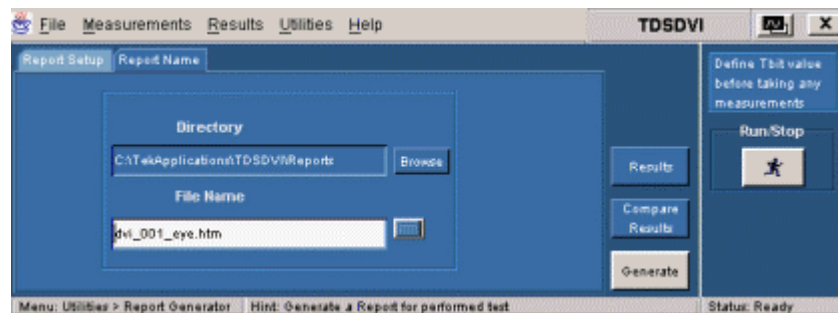

Figure 103: Generate report, report name tab
- d. Select the Generate button to generate report an HTML report. Figure 103 shows a sample Eye Diagram report.